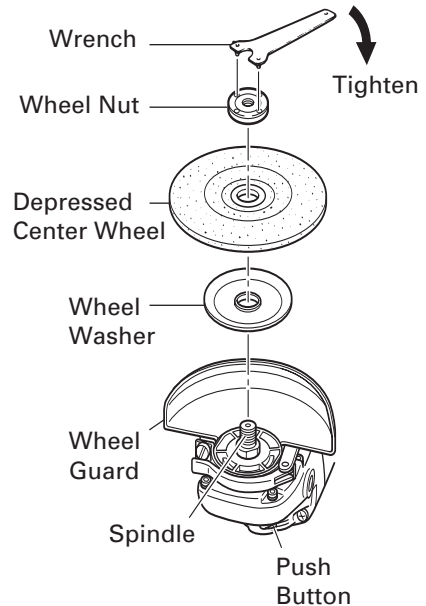

Fig. 5
- Make sure that the push button is disengaged by pushing push button two or three times before turning on the grinder. (Fig. 5)
Tighten the wheel nut by using the supplied wrench as shown in Fig. 5.